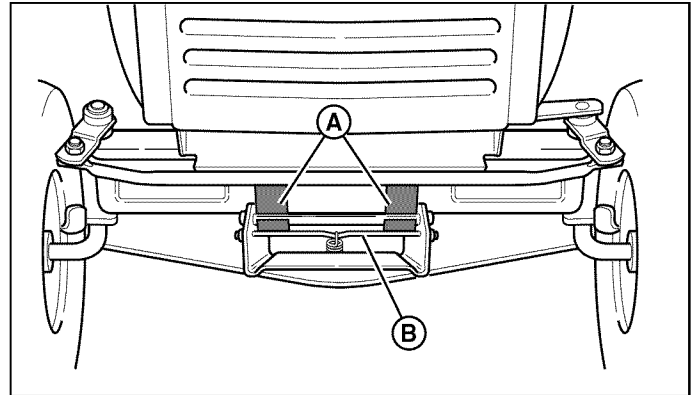

Figure 15. Mower Hitch
5. Turn the wheels straight ahead. Pull back on spring-loaded lever (B, Figure 15) and lift mower hitch off of the tractor brackets (A).
2. Place mower in the lowest cutting position using the mower height adjuster. Slide the mower deck under the right side of tractor so that the mower hitch is aligned with front tractor hitch (A, Figure 15).
3. See Figure 15. Turn wheels straight. Pull back on the spring-loaded lever (B) while lifting up on the mower hitch. Install the mower hitch onto tractor hitch brackets (A). When properly installed, the spring-loaded lever should seat fully underneath the brackets (A).